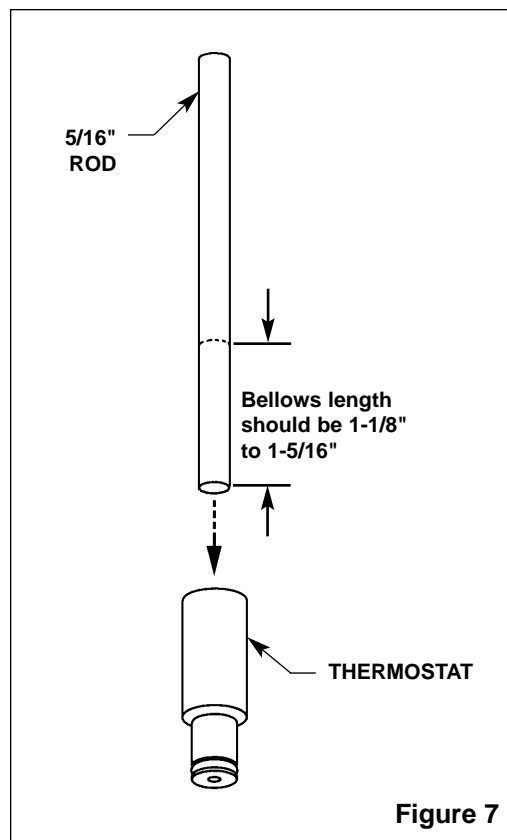

Figure 7
2. Insert a 5/16" dia. rod into the thermostat bellows. Mark the length of the rod inside the bellows (see Figure 7).
3. Use a marking pen to mark the thermostat bellows length (at room temperature, with 10 lb. of force, the bellows length should be approximately 1-1/8" to 1-5/16") (see Figure 7).